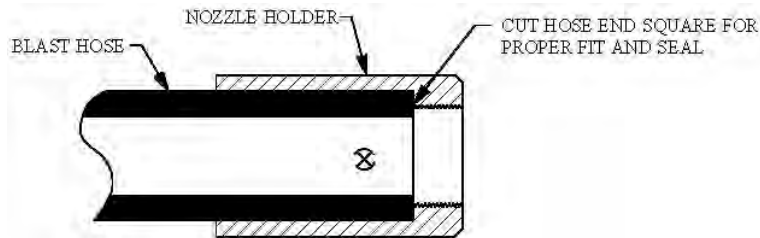

Figure 8.3 – Hose End Fit up
- 8.8. All air hose, blast hose, and threaded couplings have gaskets that seal the connection. To prevent loss of air pressure and/or premature abrasive wear replace these gaskets when leaks are found. Inspect the couplings daily for leaks and wear. Replace gaskets when visible wear or leaks are found. When installing or replacing hose couplings cut the hose end square for secure fit (see Figure 8.3). To insure proper coupling connection always use fittings that are the same brand. See the drawings and part lists in Section 9.1 and 9.2.